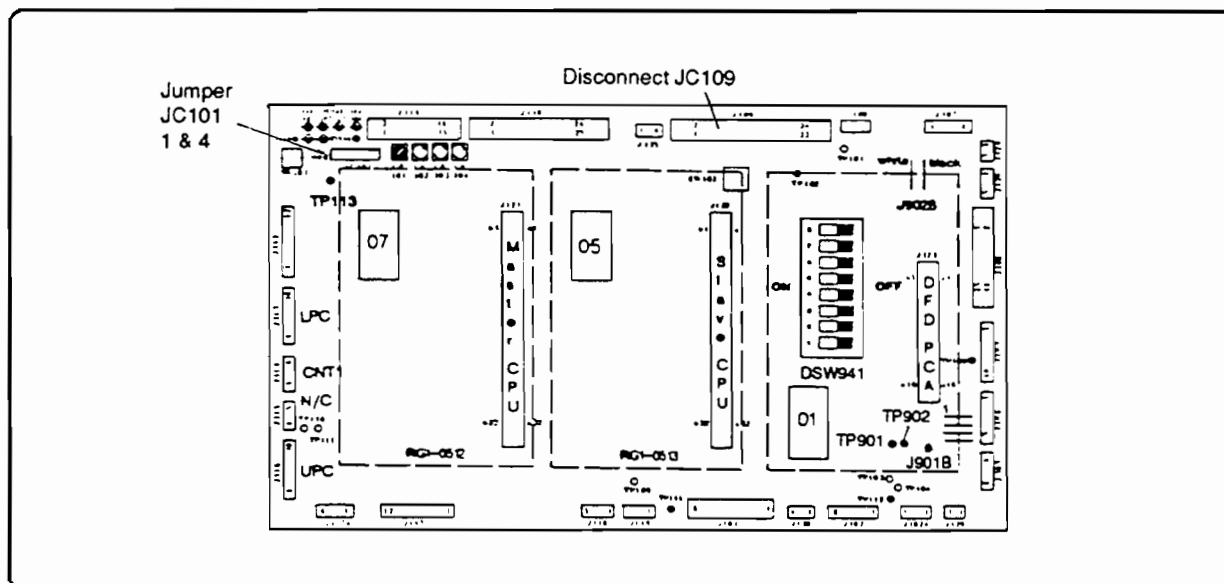

Figure 7-41. DC Controller J109
6. Disconnect J109 on the DC Controller (see Figure 7-41).
7. Install the test jumper to link JC101-1 to JC101-4 on the DC Controller. See Figure 7-41 for location.
11. Switch DSW941 941-4 (on the Double Feed Detect PCA) left (ON) for at least 6 seconds, then place it right (OFF). See Figure 7-41.